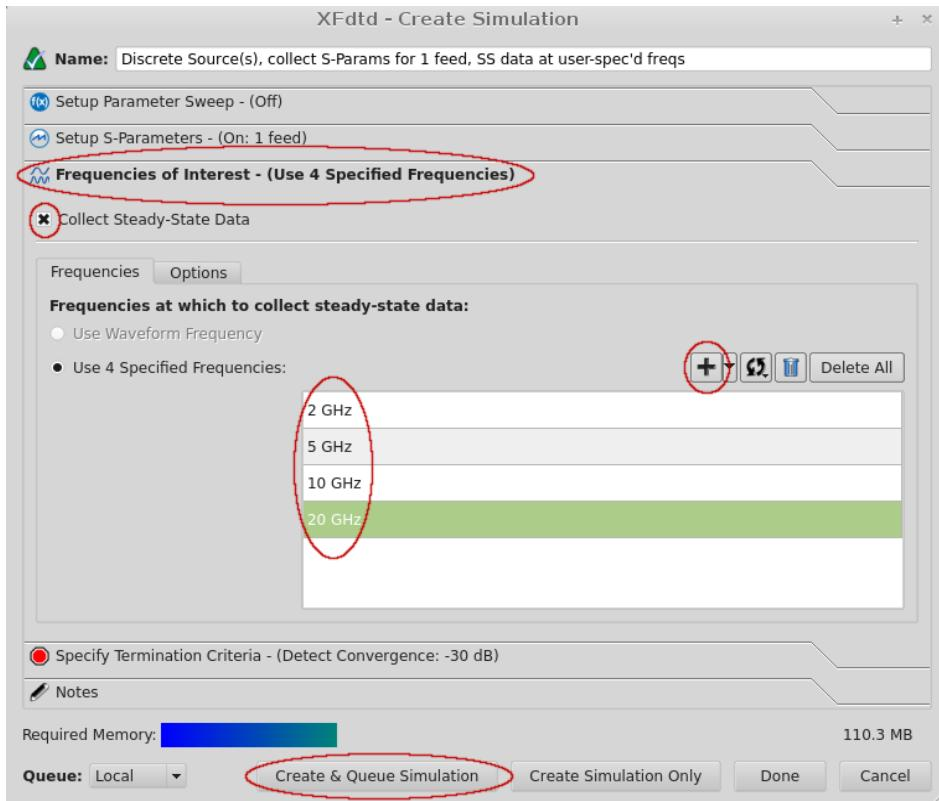

Figure 2.8: Simulation Dialog
- To start a simulation, click the SIMULATIONS button on the upper-right side of XFdtd, then click the FDTD in the upper-left of the Simulations dialog to set up a new simulation as shown in Figure 2.8.